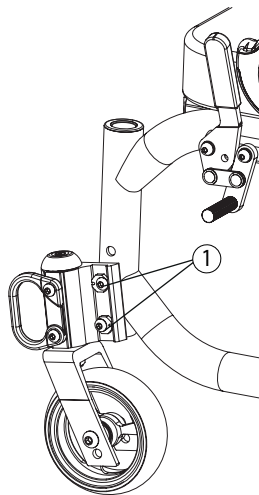

Fig. 19
- Remove screws (1) (Fig. 19).